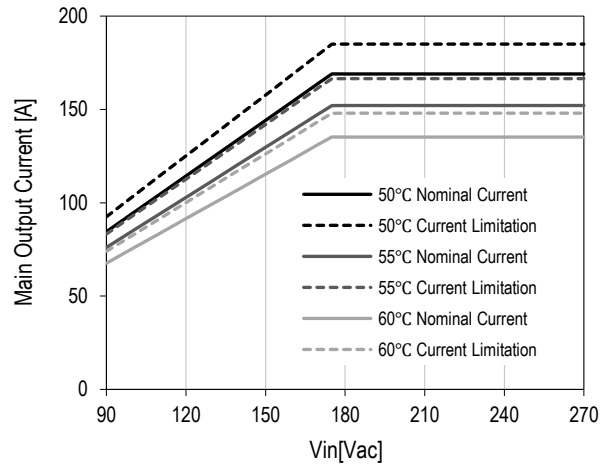

Figure 24. Derating on V_1 vs T_a & V_{in}
3) See Figure 24 and Table 1 for linear derating > 50°C
The main output current limitation level $I_{V_1\text{ lim}}$ will decrease if the ambient (inlet) temperature increases beyond 50 °C (see Figure 24 and Table 1). Note that the current limitation on V_1 will kick in at a current level approximately 10A-16A higher nominal output current than is shown.